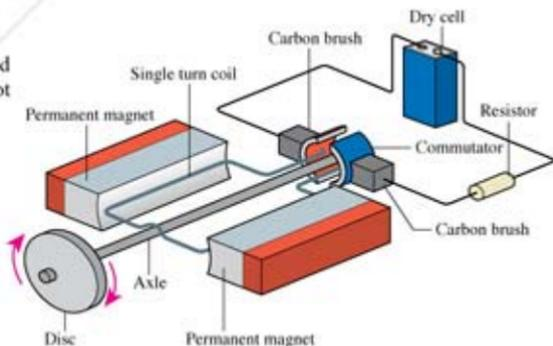

Figure 8
9. Figure 8 shows the design of a simple direct current motor that can produce a force to rotate a disc connected to the axle of the motor. A pupil who constructed the motor according to the design made the following observations: